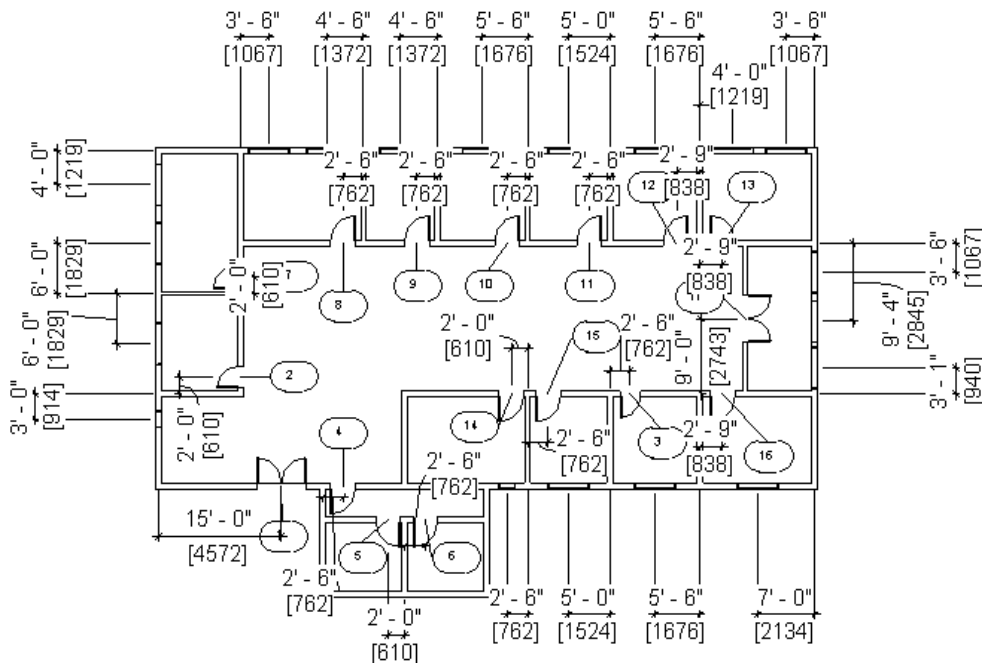
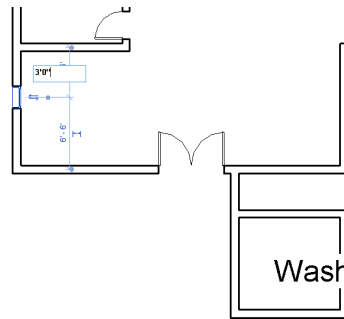

Figure 3-77 Sketch for adding doors and windows to the Office Building project
Figure 3-83 Specifying the exact location of the window
In this tutorial, you will add doors and windows and also add a floor and a ceiling to the *c03_Office_BuildingI_tut1.rvt* project file for Imperial or *M_c03_Office_BuildingI_tut1.rvt* project file for Metric created in Tutorial 1 of Chapter 3. Refer to Figure 3-77 for adding these elements. The dimensions and the text have been given for reference and are not to be added. The project file name and parameters to be used are given next. **(Expected time: 30 min)**
- d. Place the windows, as shown in Figure 3-77.
14. Add the other types of door in other areas at a specified distance from the internal wall, refer to Figure 3-77.
6. Click on the upper temporary dimension and enter **3'0"** for Imperial or **900 mm** for Metric, as shown in Figure 3-83. Press ENTER; the window is moved to the specified location. Similarly, add other windows of the same type near the internal wall of the I.T. Server room (mentioned in Tutorial 1) by invoking the **Window** tool from the **Build** panel, refer to Figure 3-77.